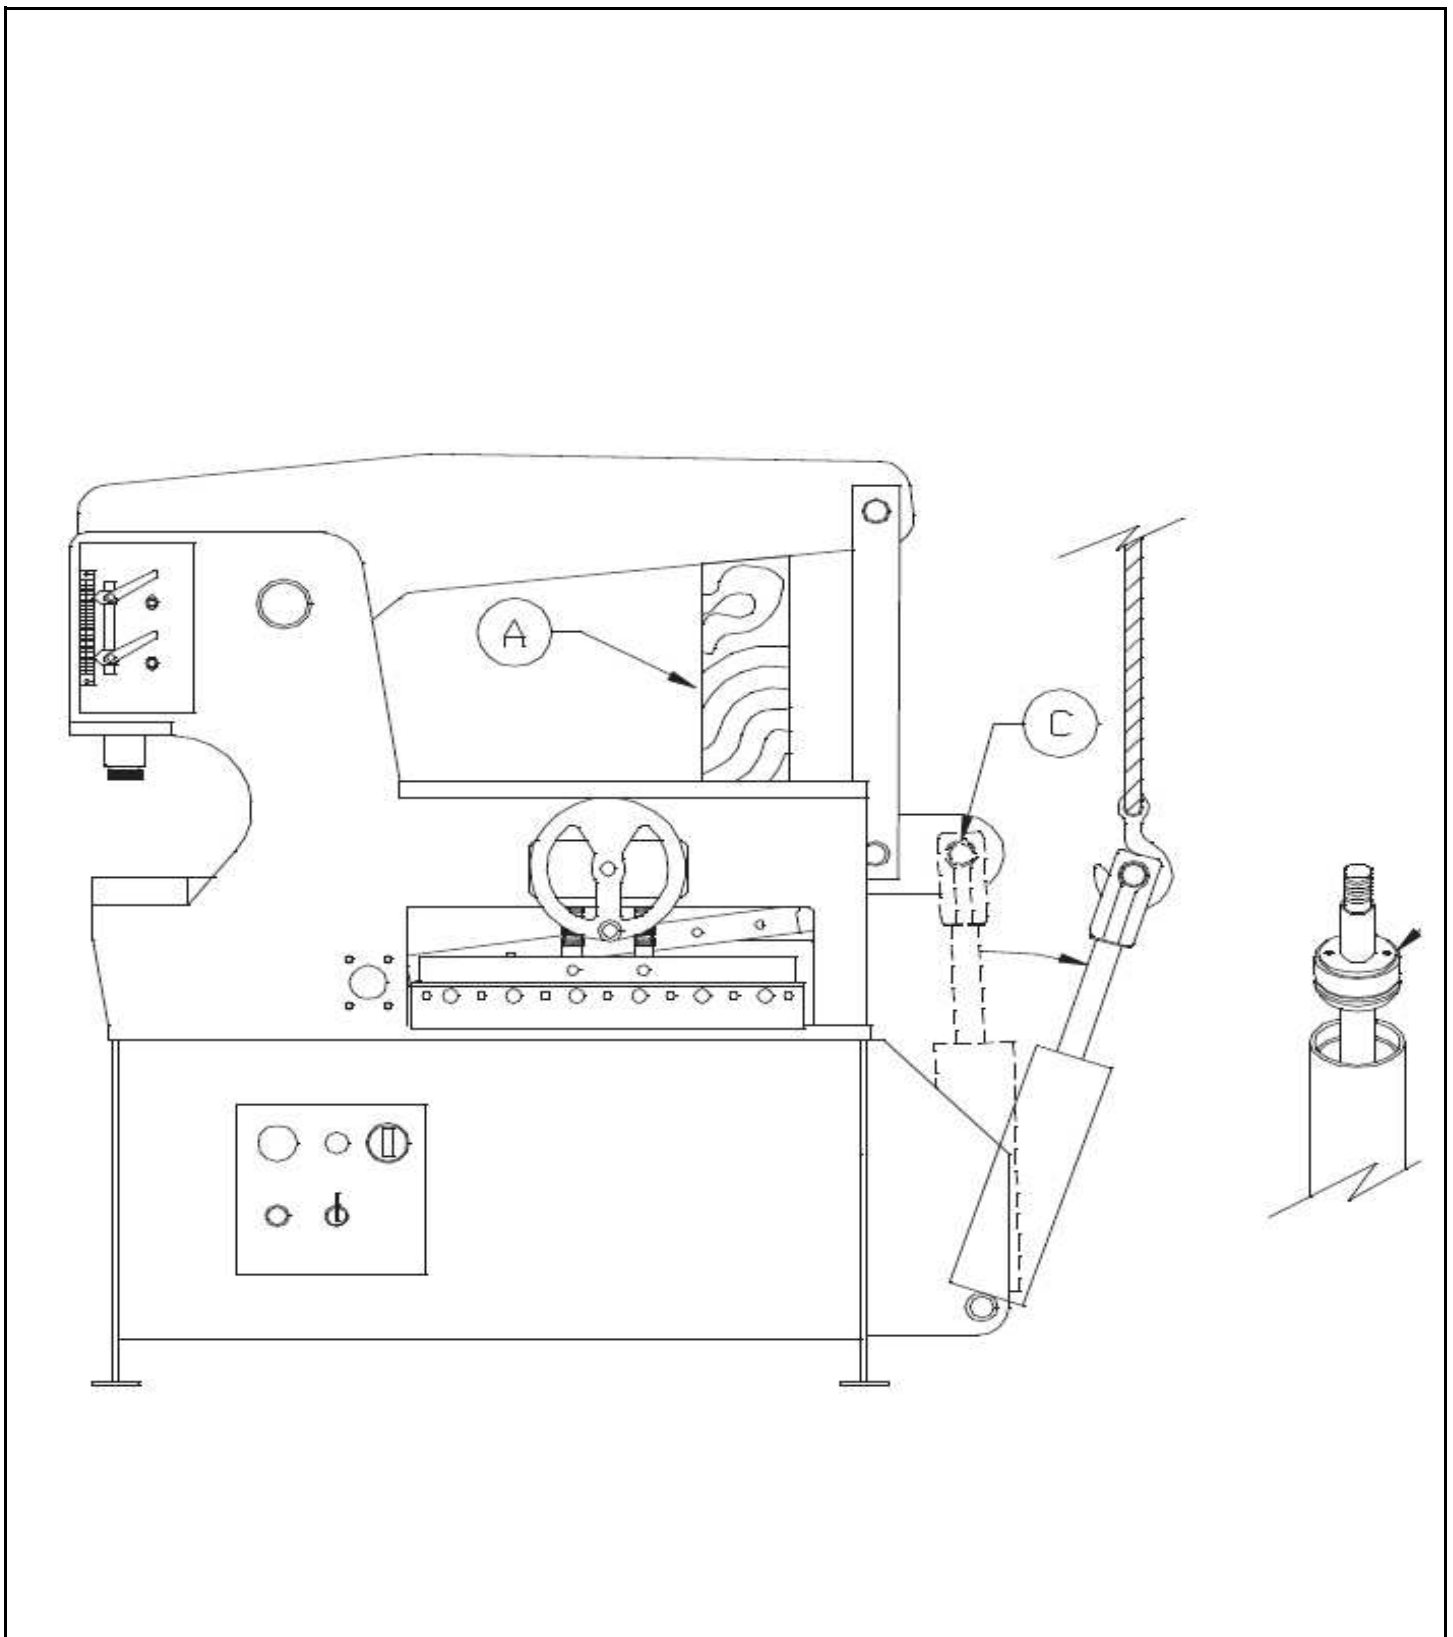

FIGURE 28
**SEE FIGURE 28 ON THE FOLLOWING PAGE. IF YOUR MACHINE HAS A DIFFERENT STYLE OF CYLINDER, REFER TO SECTION 10.0.**
- 4. Remove the cylinder clevis pin (D) and swing the cylinder out away from the arm.**
- 5. The cylinder head (B) is threaded into the cylinder.**